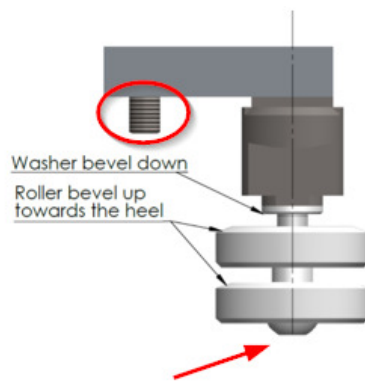

Figure 3
Prior to positioning the glass panels, tighten all lower and upper hinge roller bolts on the hinge side and the fixing screw carefully (Figure 3).
**Note!** While adjusting opening rollers, remember to also re-tighten the fixing screw of the roller heel after fixing the position (Figure 3).